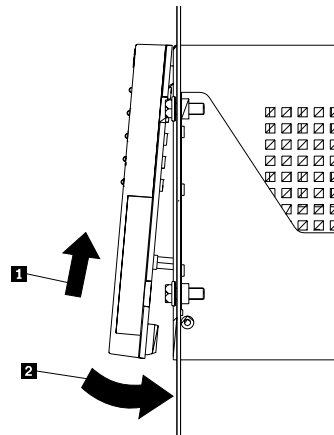

Figure 9. Replacing the controller-unit bezel (machine types 3526 and 3552)
5. To replace the bezel (machine types 3526 and 3552), slide the top edge under the lip on the chassis **1**; then, push the bezel bottom until the pins snap into the mounting holes **2**, as shown in Figure 9.